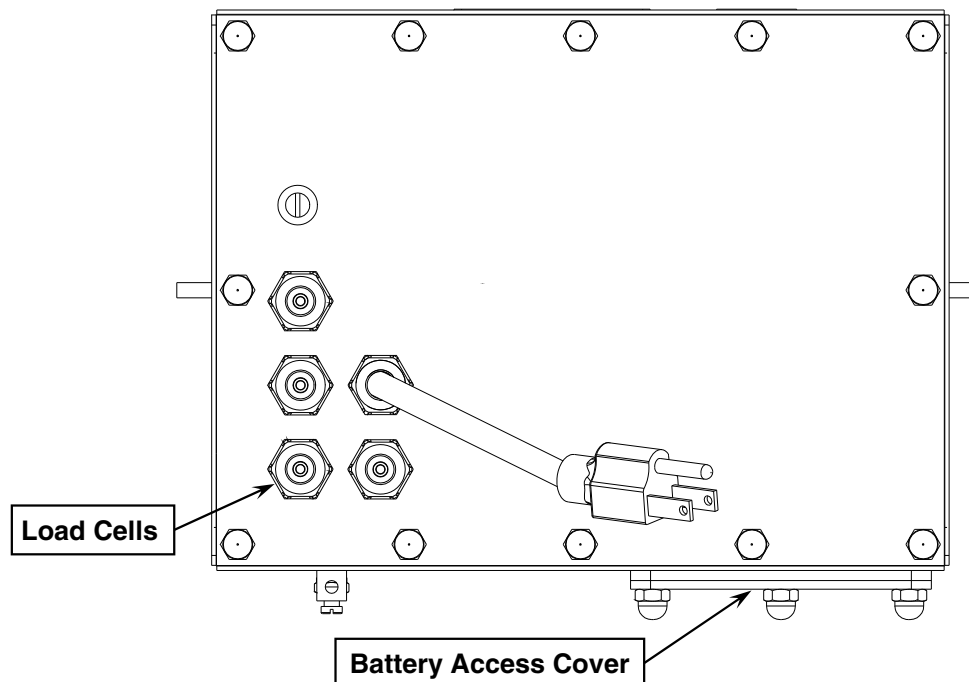
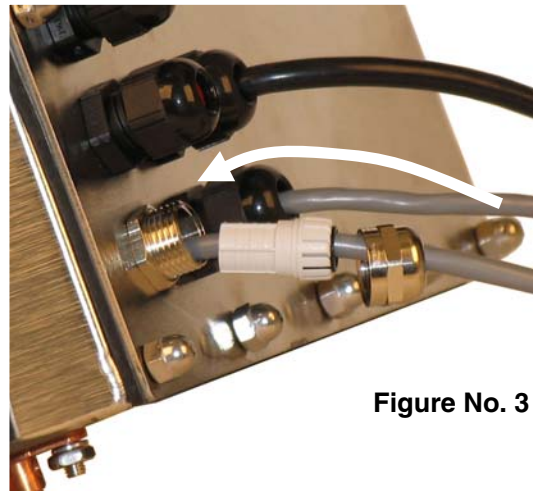

Figure No. 2
Figure No. 3
The load cell cable should be routed through the special metallic gland connector and the shield wire must be connected to this gland connector for grounding and to eliminate RFI. Refer to Figure No. 2 and Figure No. 3 for the appropriate gland connector.
1. Remove the 12 acorn nuts securing the back panel to main housing, then loosen a gland connector for the load cell cable. Refer to Figure No. 2 for illustration of connector layout.
1. Remove the 12 acorn nuts securing the back panel to main housing, then loosen a gland connector for the serial cable. Refer to Figure No. 2 for illustration of connector layout.